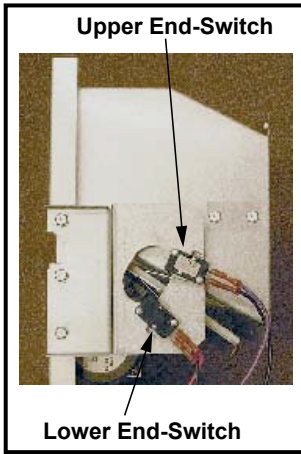

FIGURE 4
- c. Vary the control settings and observe for proper opening and closing of the damper. The gear motor was factory set to fully close the damper and to open it with approximately 1-1/8” (29mm) between the upper edge of the damper and the duct assembly. If the damper door does not fully close or open properly, loosen the adjusting screws as shown in **FIGURE 4** and slide the end-switch back and forth until proper operation is obtained. If necessary, carefully bend the metal blade (**FIGURE 5**).